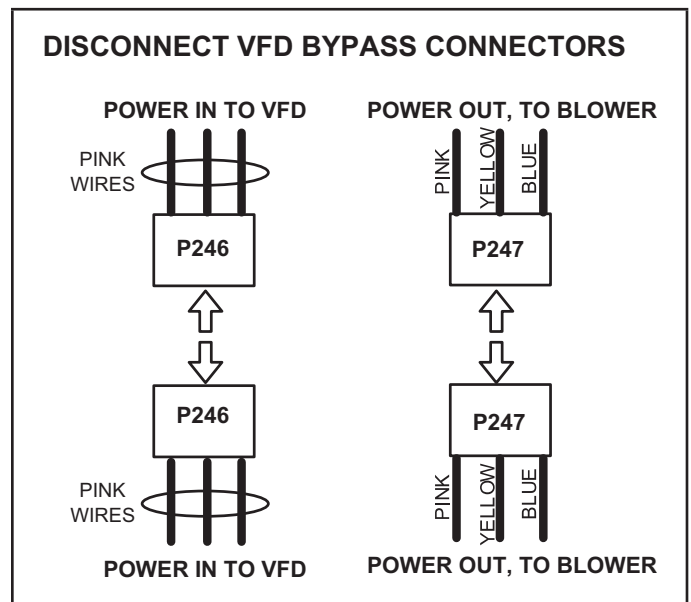

FIGURE 39
3. Disconnect P246 from P246 (power in to VFD) and P247 from P247 (power out to blower). See FIGURE 39.